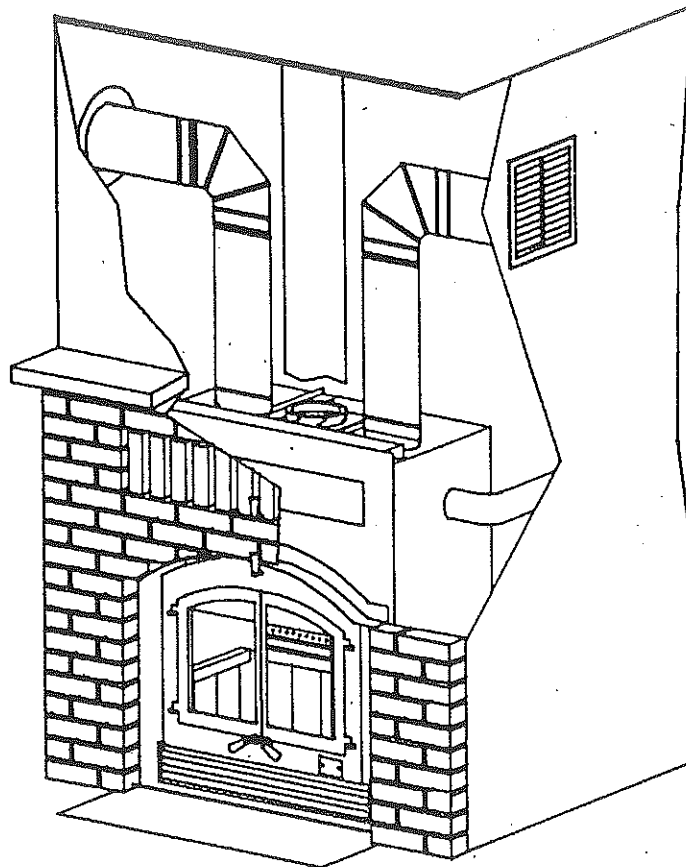

Fig. 10
9. At approximately 10 brick courses high (depending on the brick size) lay the optional arched lintel iron on the brick (do not tie to the fireplace). See Fig. 10.